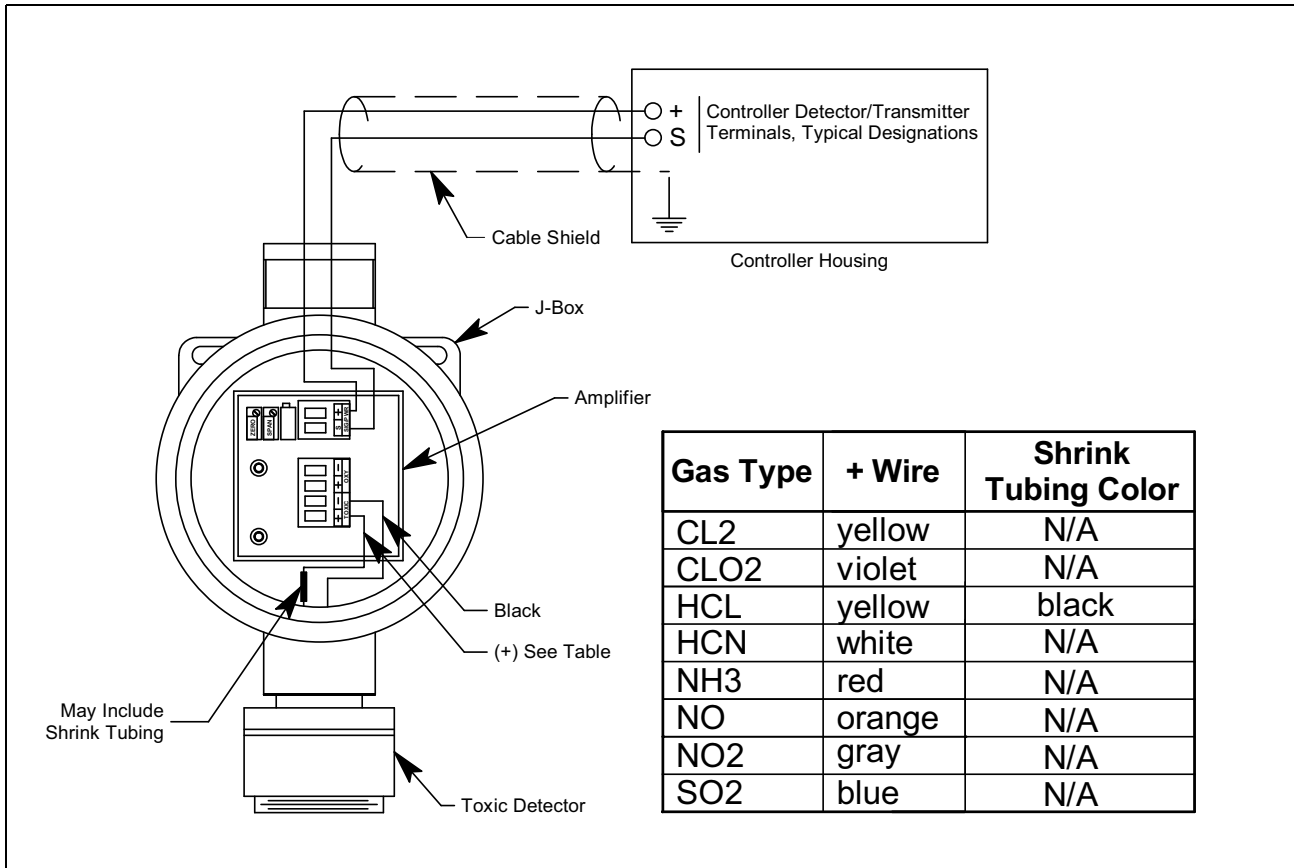

Figure 5: Wiring the Toxic Gas Transmitter to a Controller
The detector housing body protects the electronic components within the housing. Use the mounting threads at the top of the housing to screw the toxic detector into the 3/4 NPT hub on the bottom of the junction box. Two wires extend from the top of the detector housing body. Use these wires to connect the toxic detector to the amplifier. One of the wires is black and the other wire is color coded and may have a colored band of shrink tubing. See Figure 5 on page 13 for the color code assignments.
4. The detector leads are factory wired. Verify that the detector leads are wired to the amplifier's detector terminal strip as shown in Figure 5.
7. Pull out the controller terminal strip, and connect the two wires to the terminal strip as follows (see Figure 5).
11. Connect the wires to the applicable detector/transmitter terminal strip at the controller as shown in Figure 5.
8. Connect the detector leads to the appropriate detector terminal strip terminals. Connect the black wire to the terminal labeled “TOXIC -” and the color coded wire to the terminal labeled “TOXIC +”. See Figure 5 on page 13 for the detector wiring connections to the amplifier and the detector wire color coding.
8. Install the detector and controller terminal strips into their sockets on the new amplifier as shown in Figure 5 on page 13. If controller leads or detector leads were removed during this procedure, refer to Figure 5 on page 13 for the detector and amplifier connections.